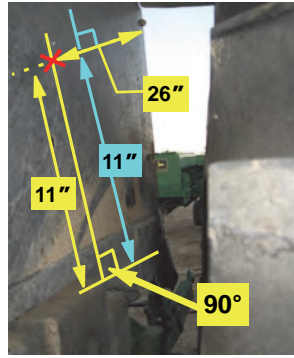

Figure 1c: Marking and drilling for the ECU mounting bracket in the fender well
- c. Flip the wheel over and, using the three hex head screws **E**, install spline adapter **D** on the bottom of shaft adapter **B**. Torque screws **E** to **6 N·m (53 in-lb)** (Figure 1c with inset).
Figure 1c with inset: Spline adapter installed on shaft adapter
- e. On the inner wall of the left rear fender well, measure and mark a point 11" from the bottom of the cab frame and 26" from the rear of the fender well (X). (Note: You can use a square or two vertical lines to get a 90° angle for the 26" measurement - Figure 1c). Drill a 1/4" hole.